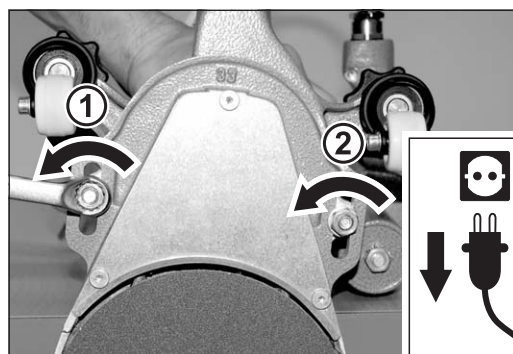

Fig. 35 Undo the two nuts with which the attachment is fastened.
- 3 Use the closed mouth wrench to loosen the two hexagonal nuts (wrench size 13 mm) which are used to fasten the attachment (fig. 35).
- 3 Use the closed mouth wrench to remove the two hexagonal nuts (wrench size 13 mm) and the washers which are used to fasten the attachment (fig. 35).